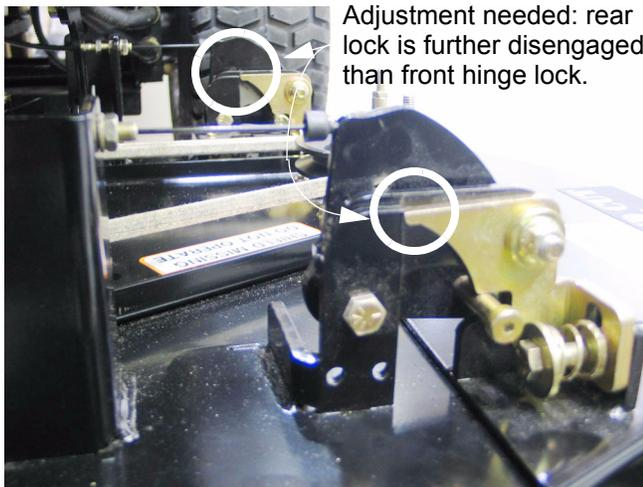

Figure 13.3
- 13.3. Turn the key switch to the RUN position, and "Blip" the wing lift switch until the tightest cable moves the hinge lock it is connected to just far enough to free that hinge. See Figure 13.3.